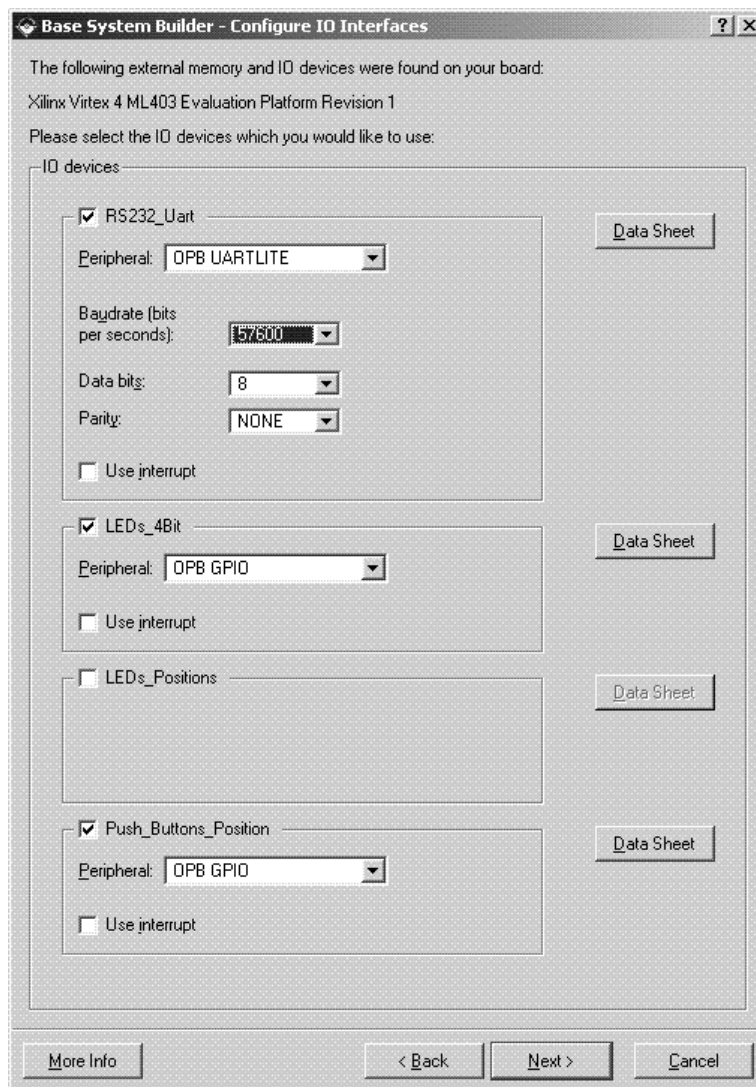
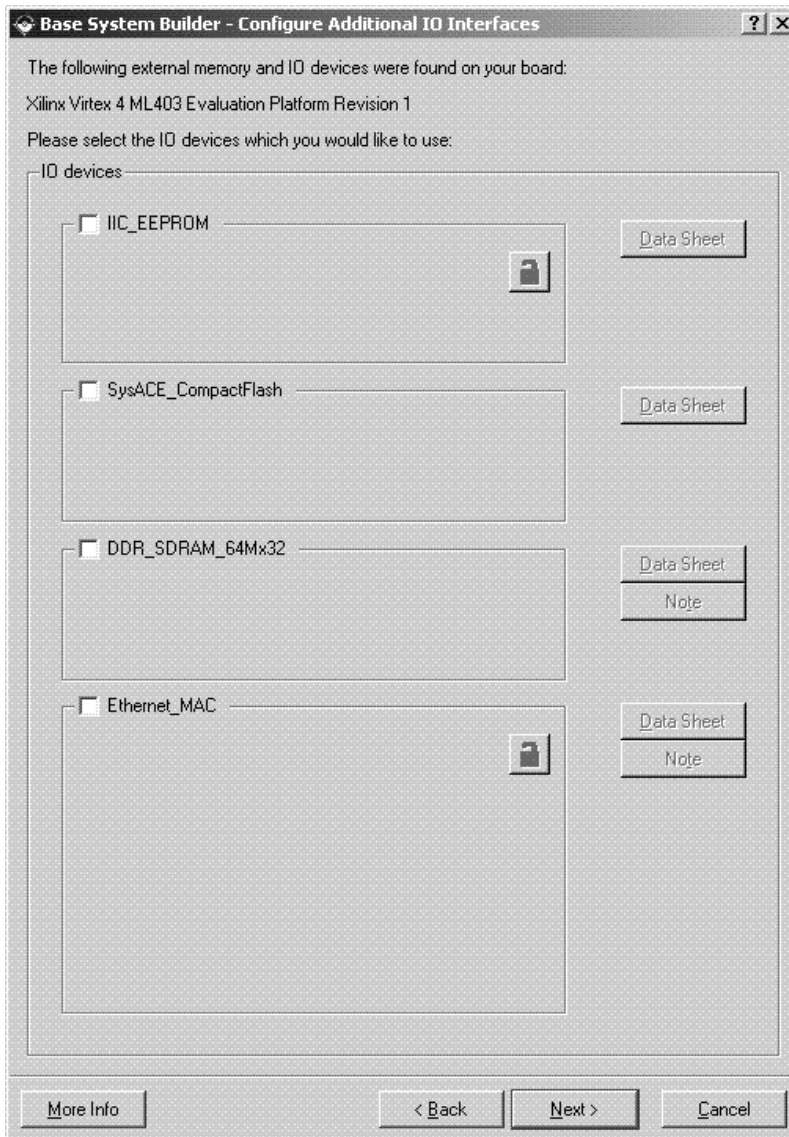
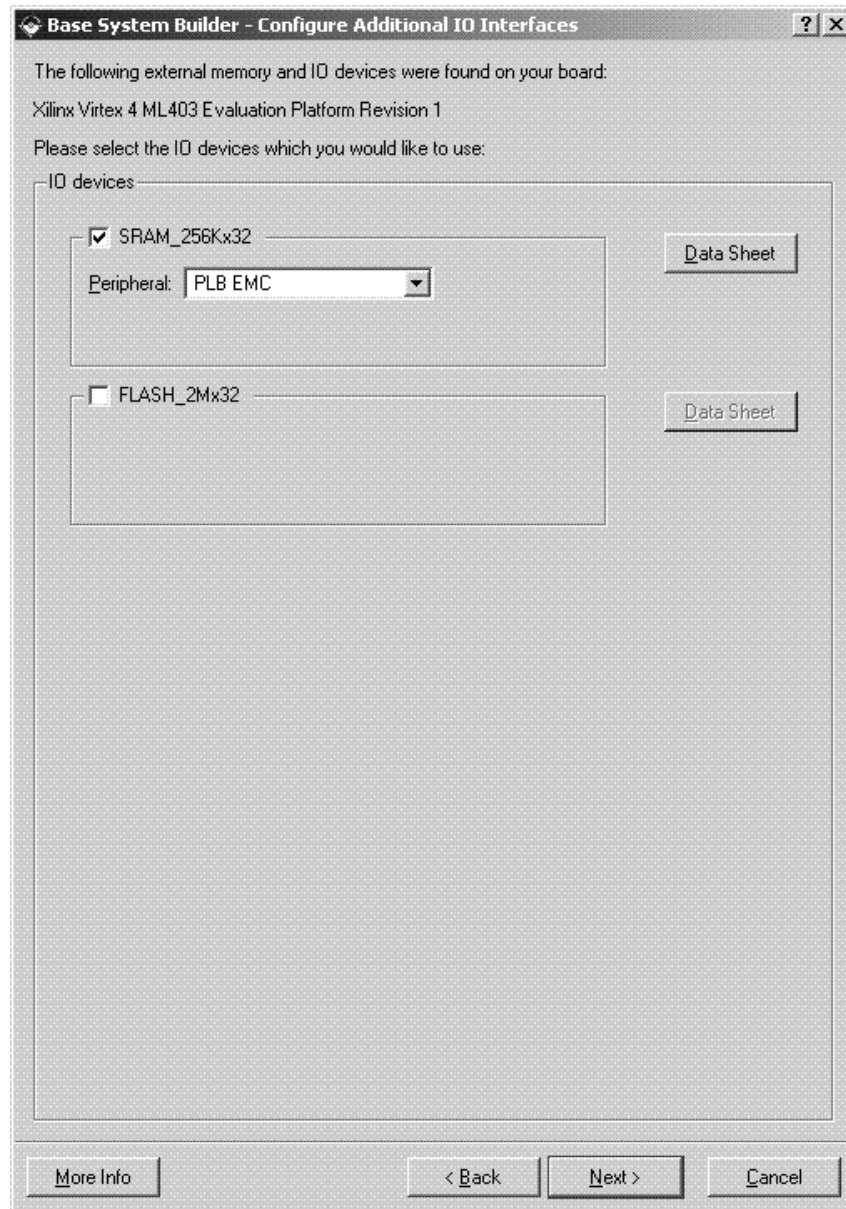

Figure 4: Configure I/O Interfaces
Figure 5: Configure Additional I/O Interfaces
Figure 6: Configure Additional I/O Interfaces
- Click **Next**. Select the peripheral subset as shown in Figure 4, Figure 5 and Figure 6.